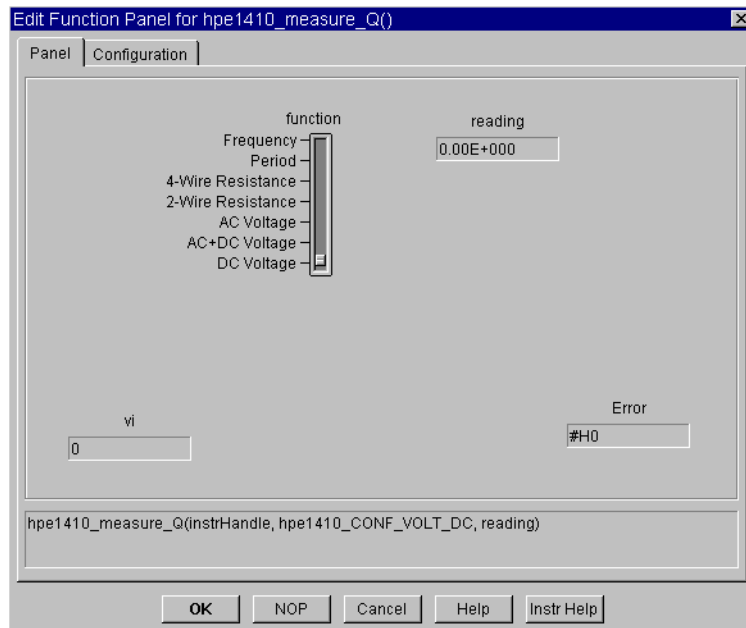

**Figure 7-3. Panel Tab of Edit Function Panel Dialog Box**
**The Panel Tab.** The `Panel` tab, shown in Figure 7-3, allows you to specify the constant (control) values to pass to the function.